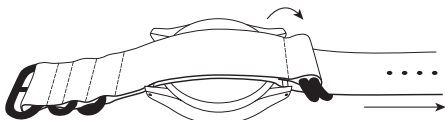

Fig. 2
3. Fold over the shorter side of the textile strap to the right over the case back and bring the longer side through the two metal loops. Tighten the textile strap carefully (figure 2).